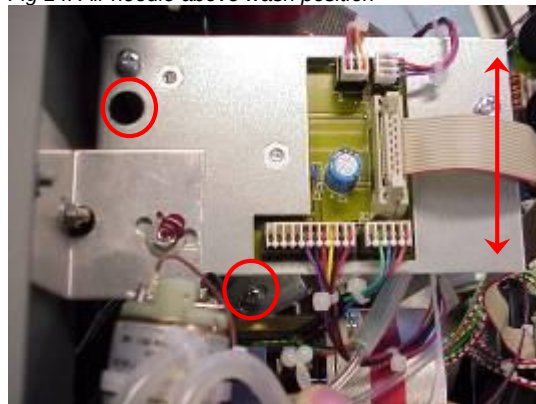

Fig 15. Position of needle unit screws to adjust needle arm
16. Check if the air needle is centered above the wash station and adjust if needed. The needle arm can be adjusted by loosening the 2 marked screws if fig. 15 and rotate the entire frame to get the air needle centered above the wash station. See for more details section 5.3 of the service manual